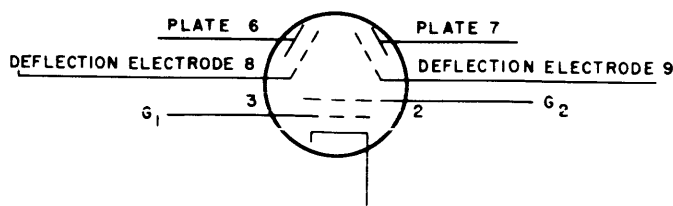

Figure 4-8. Electrode Arrangement, V1301
a. ALIGNMENT SIGNAL GENERATOR. See figure 4-9. The alignment signal generator comprises balanced modulator V1301 and mixer V1302. V1301 is a beam deflection tube arranged as shown in figure 4-8 below. Total beam current is determined by the voltages on G_1 (pin 3) and G_2 (pin 2). However, the amount of current collected by plate 6 or 7 is determined by the difference of potential between deflection electrodes 8 and 9. If there is no difference in potential on the deflection electrodes, there is no plate current.